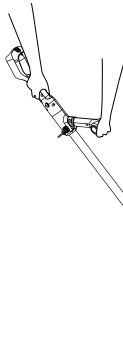

Fig. 11-1
- Using as a string trimmer (Fig. 11-1)